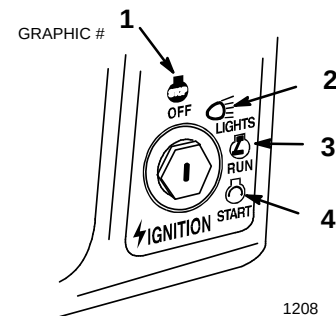

Figure 7
7. Turn the ignition key clockwise and hold it in the “START” position (Fig. 7). When the engine starts, release the key.
2. Turn the ignition key to “OFF” (Fig. 7).